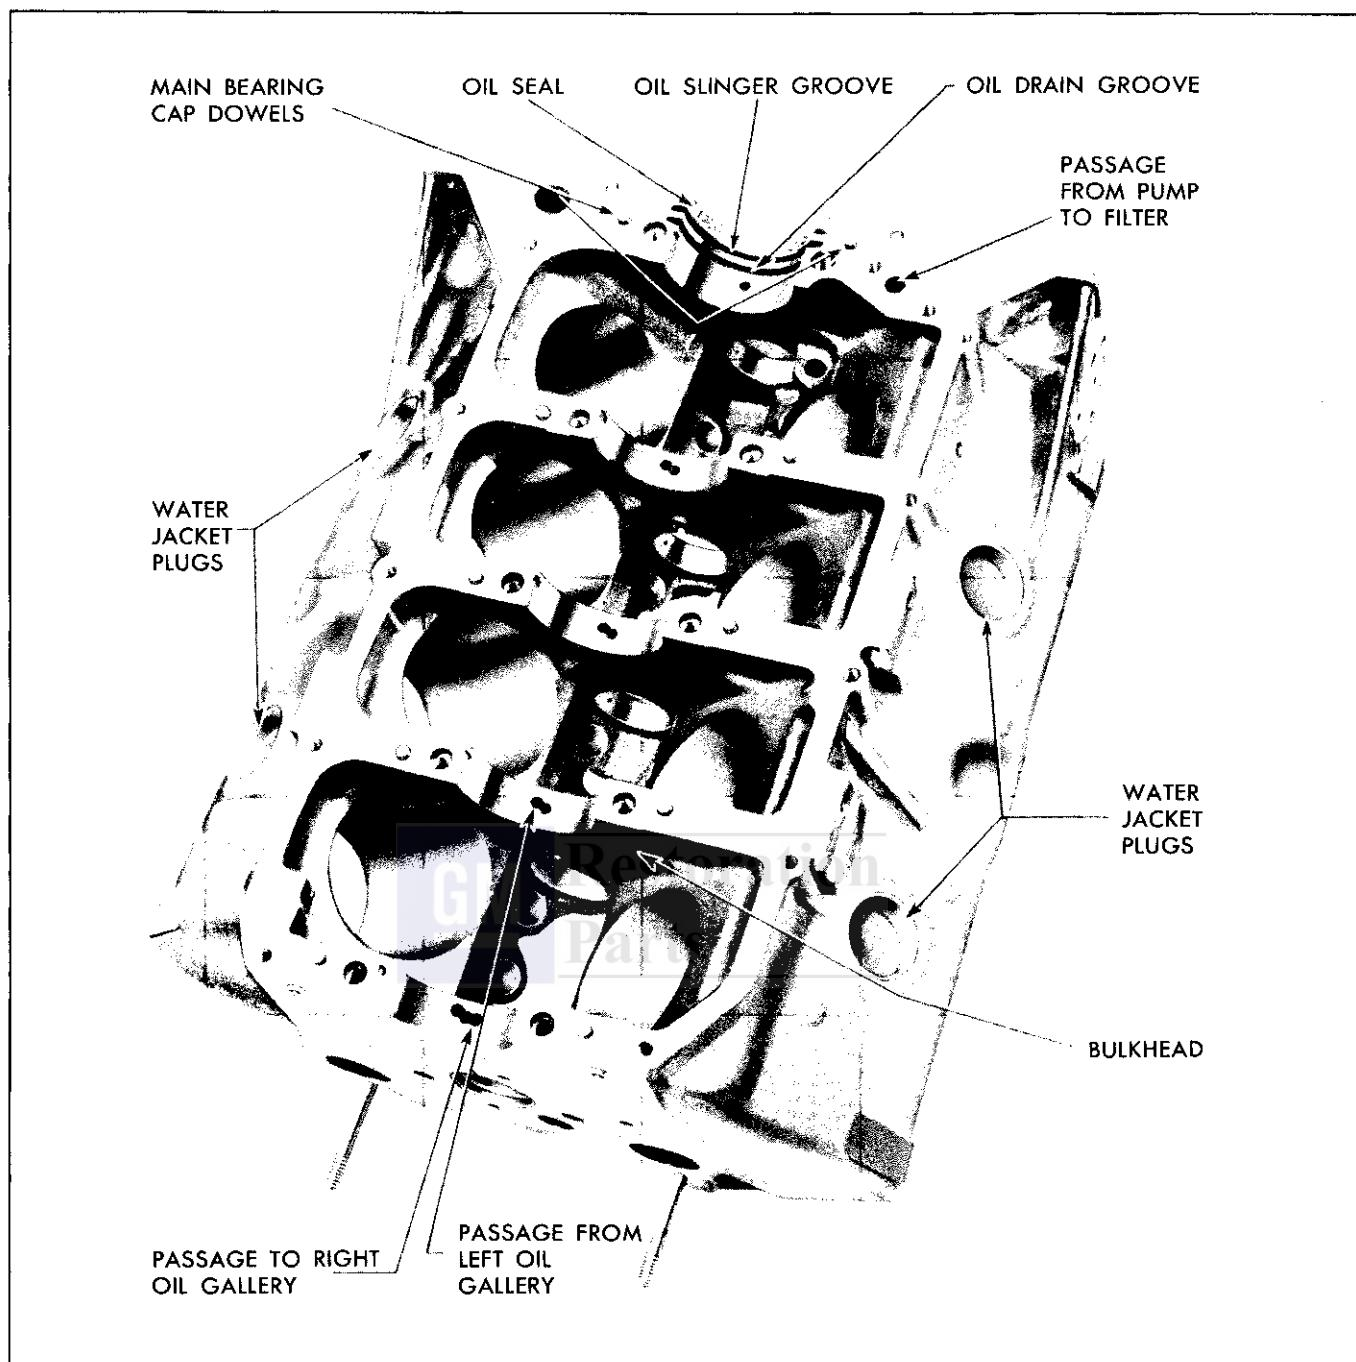

Fig. 6-129 Cylinder Block—View From Bottom
a. With cylinder block inverted, use pen light to see that passage from oil pump to filter is open (Fig. 6-129).
c. Visually check passage from each main bearing to corresponding camshaft bearing (Fig. 6-129).